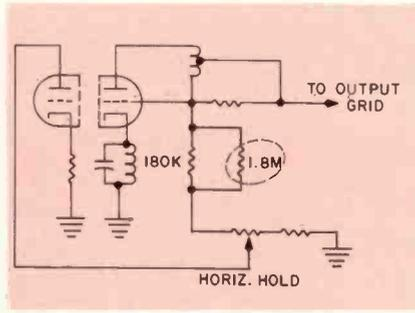

Fig. 5 — When the 1.8M resistor drifts out of tolerance the horizontal hold control will sync the oscillator on the extreme edge of its range.
**Horizontal hold control locks at one end?** Locate the 1.8M resistor on the bottom of the board in the horizontal circuit (see Fig. 5). Replace resistor — remove or add resistance as necessary to center control. Readjust the sinewave coil when you're through with this one.